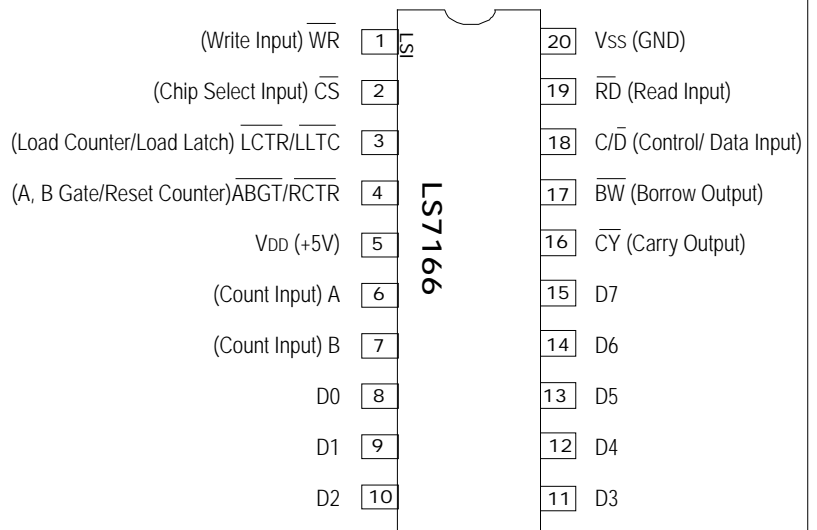

FIGURE 1
- LS7166 (DIP); LS7166-S (SOIC); LS7166-TS24 (24-Pin TSSOP)\* - See Fig. 1